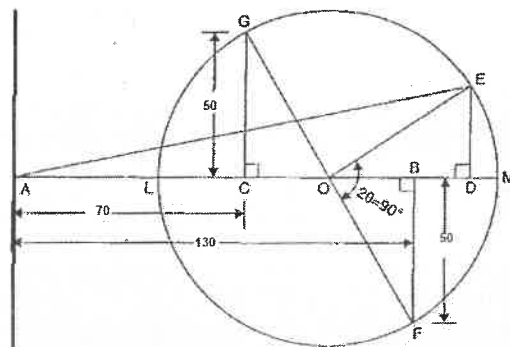

Fig. 06 [For Que 3(3)]
3. Read the given Mohr circle, find out/ calculate major, minor principal stress and max. shear stress. (Refer Fig. 06)